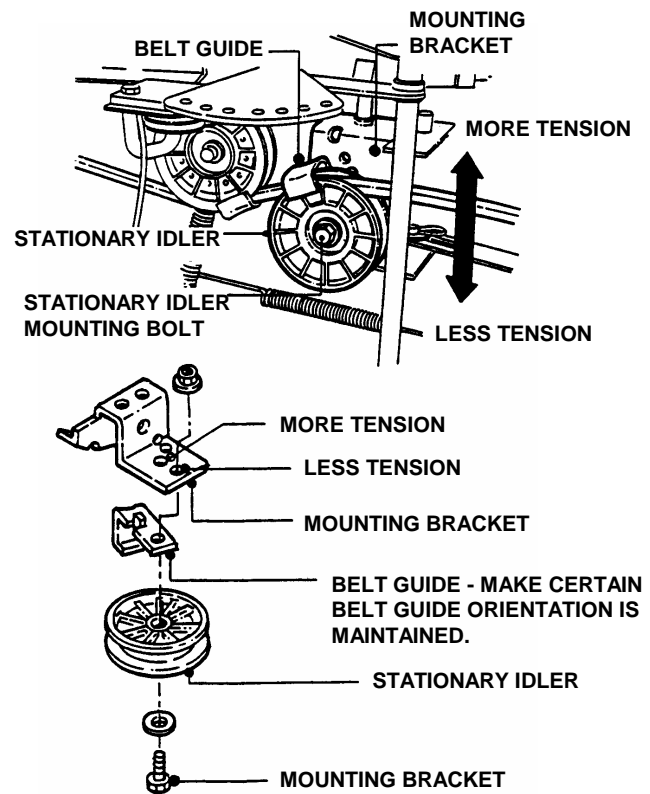

FIGURE 4.11
4. Remove the traction drive belt stationary idler mounting bolt. See Figure 4.11.
NOTE: Note the orientation of belt guide and make certain it remains in the same orientation after moving idler. Should less tension be required move stationary idler towards right side of tractor. See Figure 4.11.